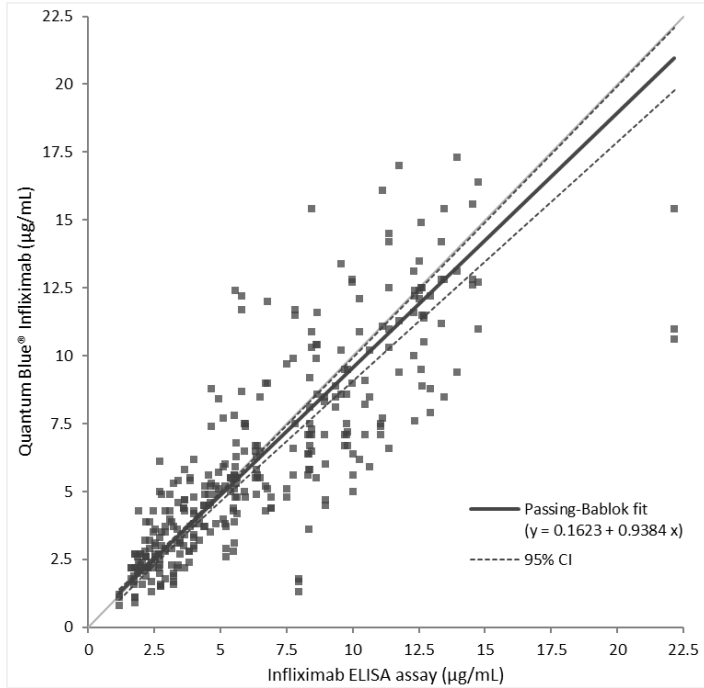

Figure 2
The method comparison study was performed according to the CLSI guideline EP09-A3. One hundred and ten (110) clinical samples were measured in triplicate using two test cassette lots of Quantum Blue® Infiximab over three days. Reference values, with a final concentration interval of 1.2 – 22.2 µg/mL were established with a commercially available infliximab ELISA test (ref. 9). Bias was determined using a Passing-Bablok linear regression analysis. The results are summarized in figure 2.